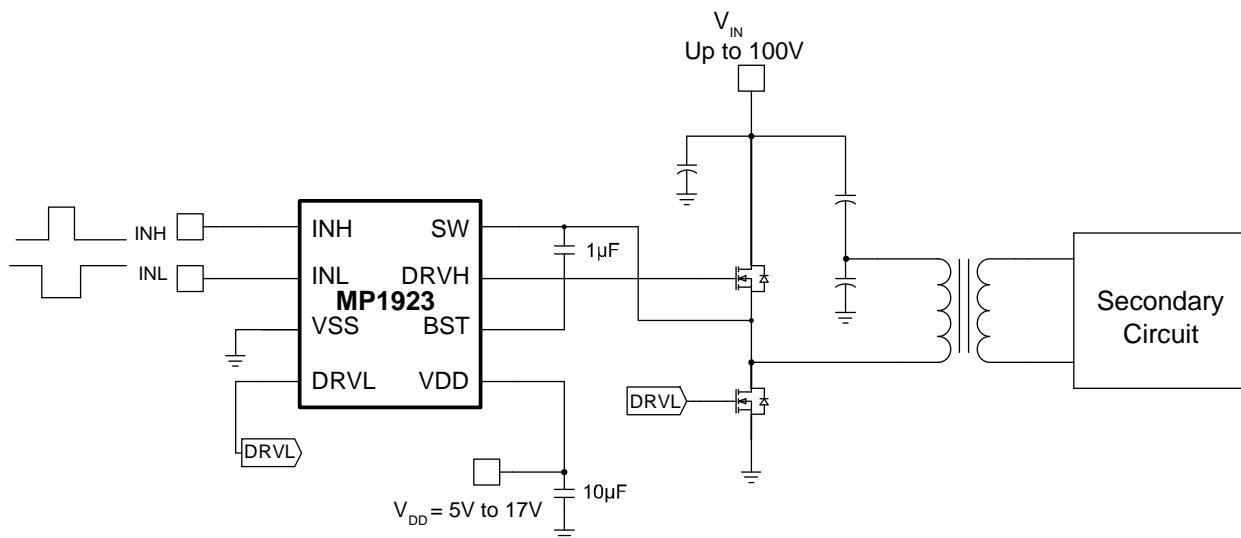

Figure 5: Typical Application Circuit (Half-Bridge Converter Topology)
In a half-bridge converter topology, the high-side MOSFET (HS-FET) and low-side MOSFET (LS-FET) are driven alternately with a dead time (DT) inserted between their respective on periods. INT and INL are driven with alternating signals via the pulse-width modulation (PWM) controller. The input voltage (V_{IN}) can rise up to 100V when in a half-bridge topology (see Figure 5 in the Typical Application Circuits section on page 17).